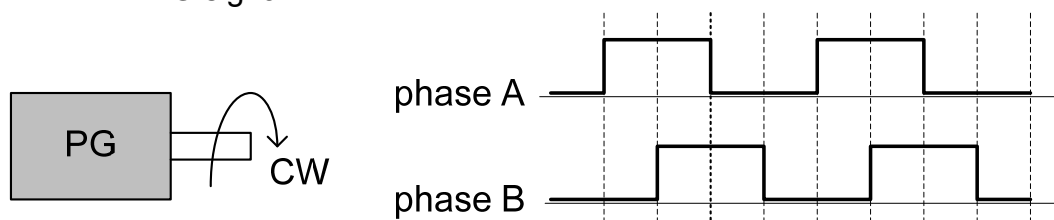

Figure 4.3.120 PG operation direction
- Reversal: The motor operation is used for the inverter with clockwise direction to perform the command. Refer to the below figure 4.3.120 for typical PG signal.